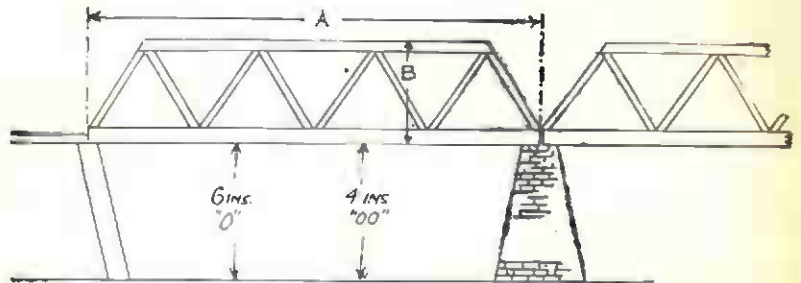

Fig. 1—A section on a girder bridge on a brick pier
It will be seen that the end of the brass tooth, which protrudes beyond the panel, must be filed to fit easily in the sprocket holes of the film, as at (F) in Fig. 3. Make sure the fit is an easy one, or damage may result to the film. Now limit the outward movement of the upper half of the traveller with a small bent piece of tin, seen in Fig. 1 (4). It can be about  $\frac{3}{4}$  in. long and should rise above the panel  $\frac{1}{2}$  in., its bent-over edge just catching the traveller and preventing it rising higher. To regulate the distance travelled by the tooth, fit the part (5) (the regulator, seen on the pattern page) just below the traveller, when the latter is at its lowest point.
The shutter (7) can now be fitted. Turn the cam until the traveller rises and the compressor is just coming into action, then fix the shutter in the position shown in Fig. 1 where one arm just covers the window (8). It can be fixed with a small screw to each arm of the compressor below.